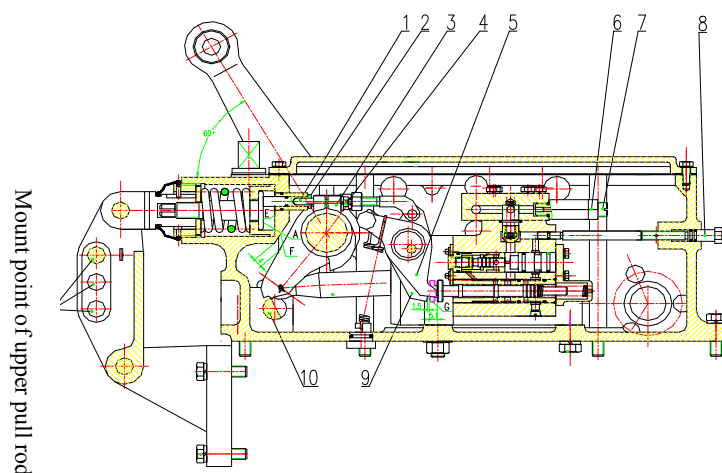

Figure 5-16 Adjustment of Force/Position Adjustment of the Lifter
5.3.9.2 Force adjusting lever of lifter and adjustment of position adjusting cam (Figure 5-16)